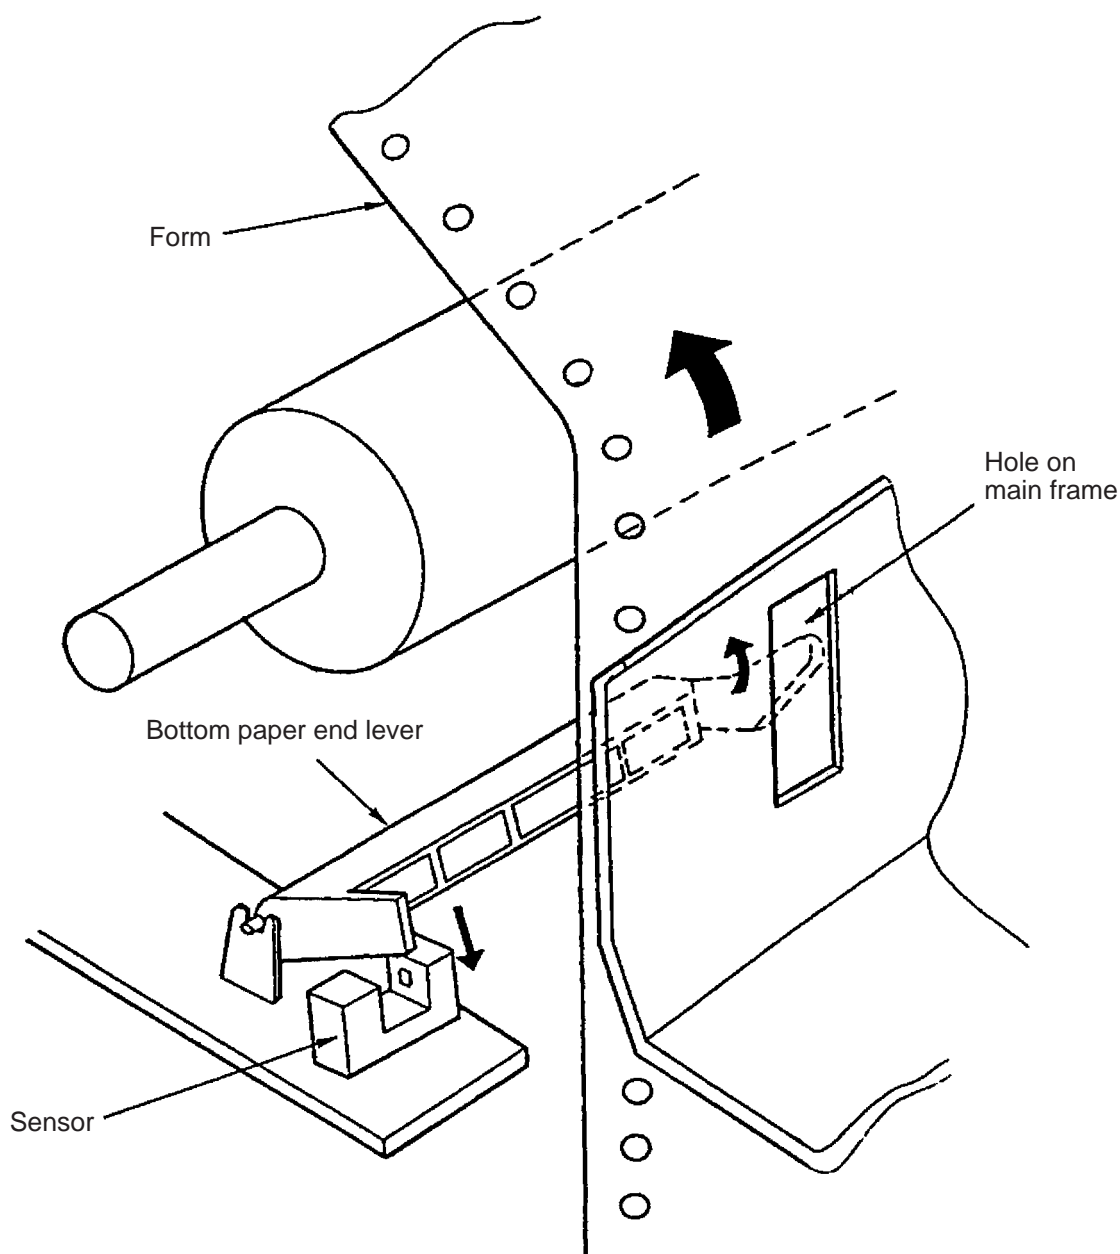

Figure 2-14 Bottom paper end detection mechanism
- (2) Bottom paper end detection mechanism (See Figure 2-14)